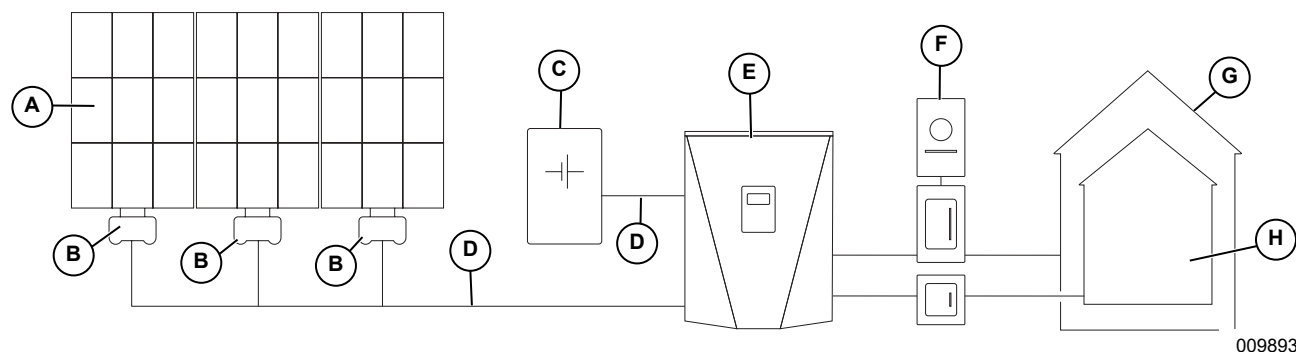

Figure 2-3. Generac PWRcell System Example.
In **Figure 2-3**, a REbus-compatible PWRcell Inverter (E) is directly connected to PV Link (B) and PWRcell battery (C) on the DC (REbus) line (D). To the right of the inverter are AC lines: 240VAC or 208VAC for grid and home loads, and critical load support up to 50A.